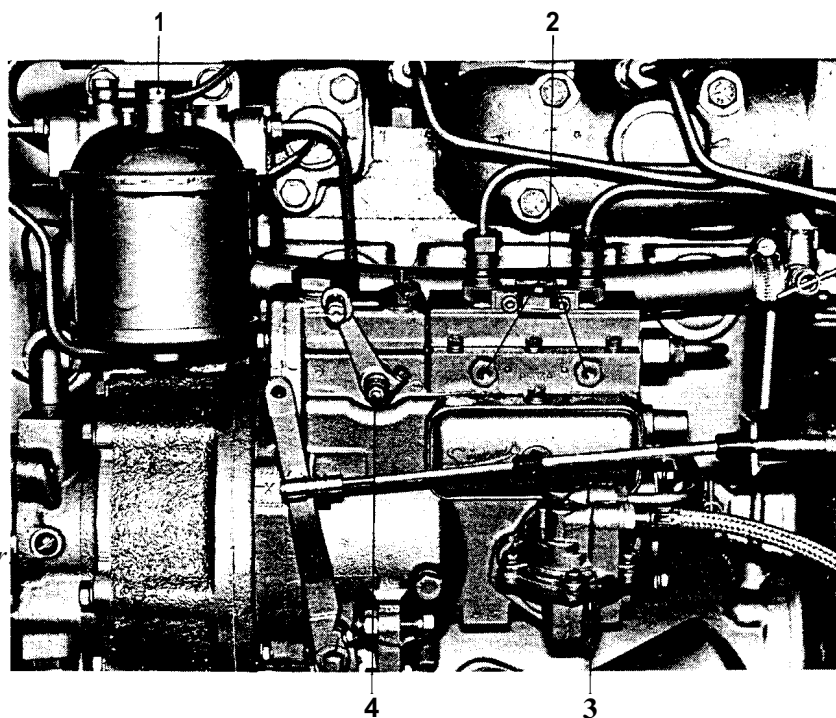

Fig. 17. fuel injection pump and fuel filter
8. When the engine is tested before delivery the fuel system is bled free of air. It would be wise to do this again before the first start. It is important to know how to bleed the fuel system in case you happen to get air in the system while away cruising. This can happen if the fuel level is too low and the boat is rolling heavily. Try not to allow the fuel level to fall below 10 to 15 litres. The bleeding is performed as follows (fig. 17): The fuel is pumped using the manual pumping lever. With long strokes at least 30 vertical movements will be necessary. Then slacken the nipple bolt for the return oil line to the fuel tank. This is fitted on top of the fuel filter. Continue pumping until fuel free from air bubbles flows out. Close the bolt. Open the front bleed screw on the fuel injection pump. Now pump again with the pumping lever until fuel free from air bubbles flows out. Close the bleed screw.
NOTE: If the engine is difficult to start in cold weather the cold weather starting button on the fuel injection pump should be pushed in. This will supply a richer starting mixture. Set the control lever at the starting position (position 7, fig. 21) then push the cold weather starting button. It will remain in until it automatically releases when the engine starts. The position of the button is shown in fig. 17. With a little effort it is possible to reach the button through the inspection hole in the engine cover.